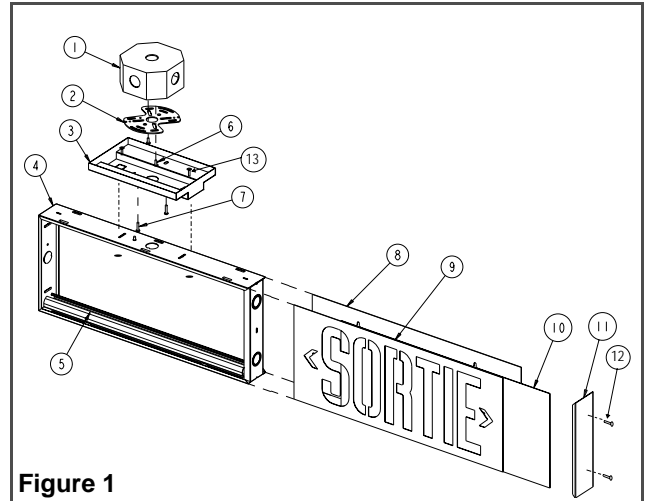

Figure 1
3. Remove exit face. To open the sign slide out the exit face and the fiberglass diffuser (See Fig. 1).